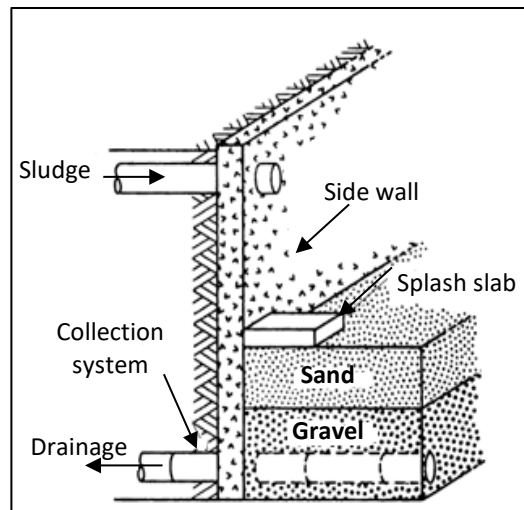

Figure 4-11. Typical sand drying bed construction.
- ❑ **Drying Bed Dewatering.** Drying beds are a low-tech means of dewatering. Residuals are placed on a sand bed where liquid drains from the residuals through the sand, to a series of subsurface drains (Figure 4-11). The liquid is returned to the head of the plant for treatment. Liquid remaining in the residuals is further reduced by evaporation. Drying beds are used for dewatering well-digested, stabilized residuals. Trying to air-dry raw, unstabilized residuals results in significant odors.